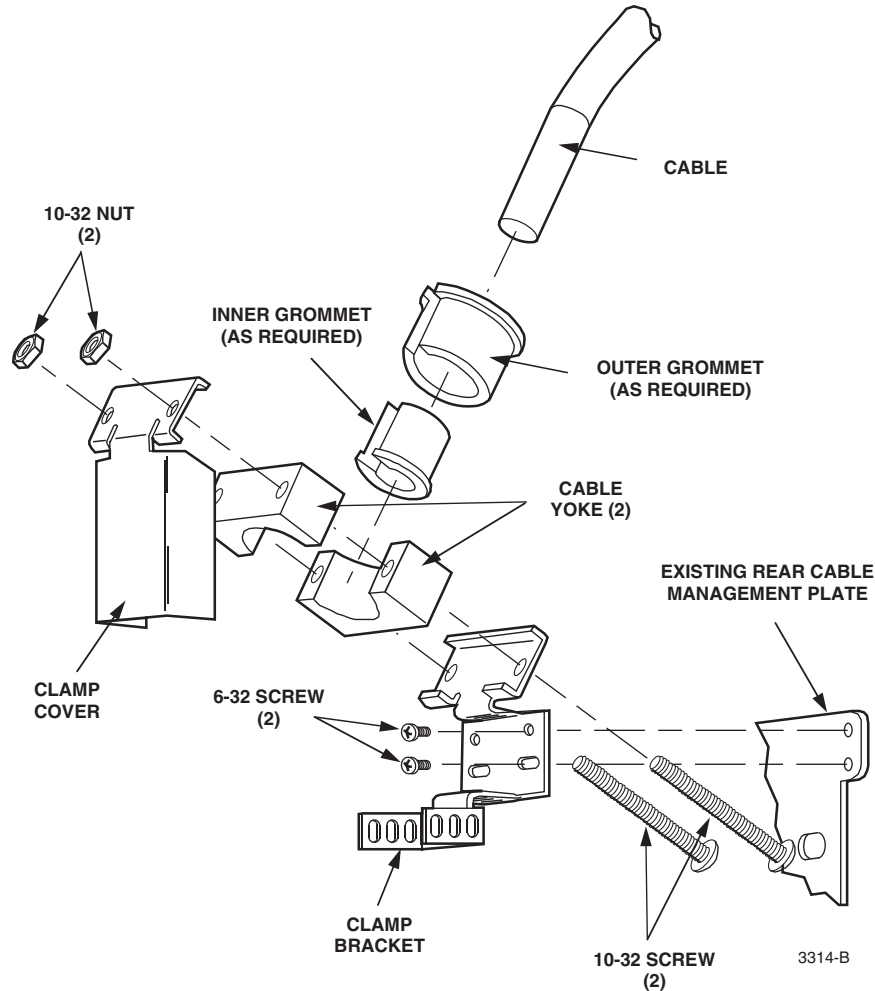

Figure 3. Installed Cable
9. Place the rubber yokes and grommets (as required) around the cable and secure cable to clamp bracket as shown in Figure 3.